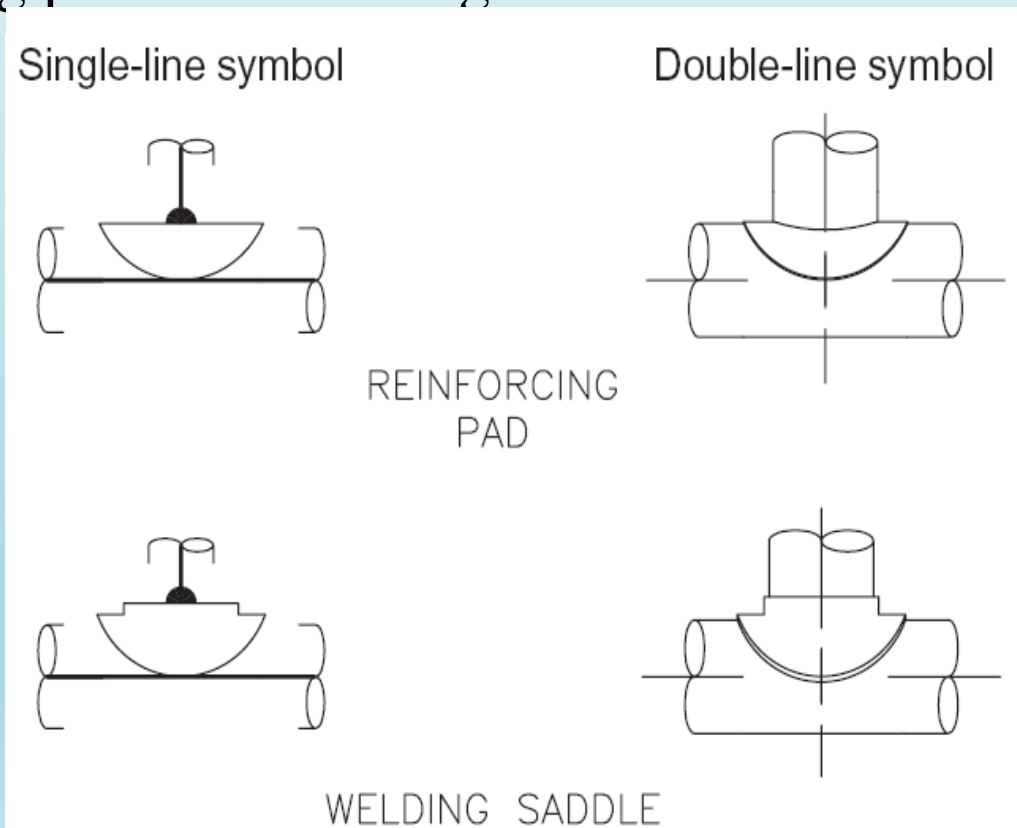

FIGURE 3.35 Reinforcing pads and saddles.
- **Welding saddle.** A precision manufactured reinforcing pad, the welding saddle has a short neck on the branch outlet that is designed to give additional support to the branch connection. Figure 3.35 shows single-line and double-line drawing representations of reinforcing pads and welding saddles.
Figure 3.35 shows single-line and double-line drawing representations of reinforcing pads and welding saddles.